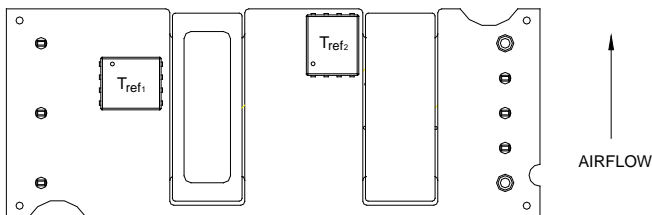
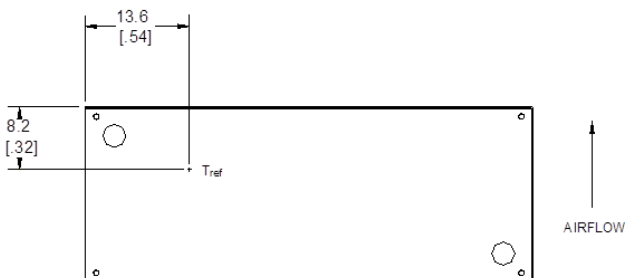

Figure 13. T_{ref} Temperature Measurement Locations for Open Frame Module.
Figure 14. T_{ref} Temperature Measurement Location for Module with Heatplate.
To provide protection under certain fault conditions, the unit is equipped with a thermal shutdown circuit. The unit will shutdown if the thermal reference points, T_{ref} , exceed 135 °C (Figure 13, typical) or 120 °C (Figure 14, typical) respectively, but the thermal shutdown is not intended as a guarantee that the unit will survive temperatures beyond its rating. The module will automatically restart upon cool-down to a safe temperature.
The thermal reference points, T_{ref1} , and T_{ref2} used in the specifications for open frame modules are shown in Figure 13. For reliable operation these temperatures should not exceed 124 °C & 121 °C respectively
The thermal reference point, T_{ref} , used in the specifications for modules with heatplate is shown in Figure 14. For reliable operation this temperature should not exceed 98 °C.